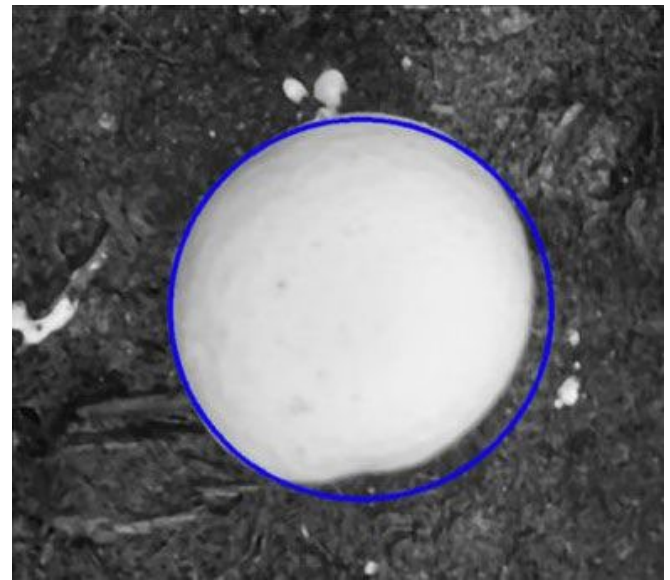

Figure 6. Circles are scored based on how well they match the edges. Only high-scoring matches (e.g., 95% score) are kept as mushrooms.
3. Confirming the best matches: The computer gives each circle a score based on how well it matches the detected outlines. Only circles with a high score are kept, removing false matches like shadows. Figure 6 shows the circle that best fits the mushroom.